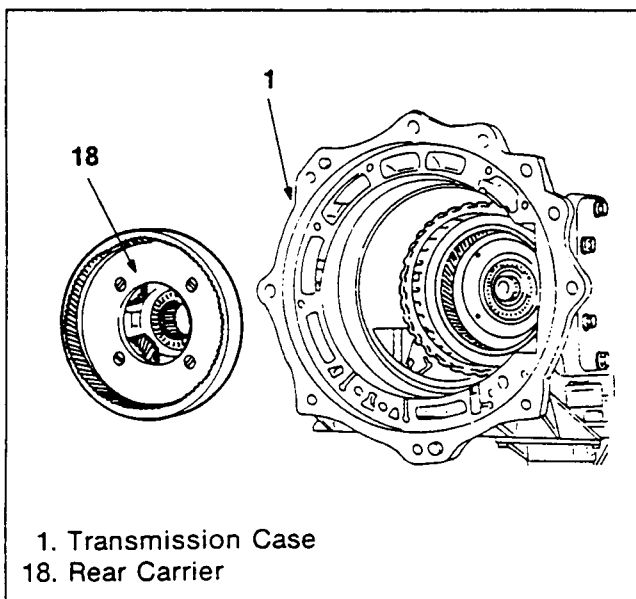

Figure 261. Rear Carrier Installation (2)
2. Attach the rear carrier to the rear internal gear (figure 261).